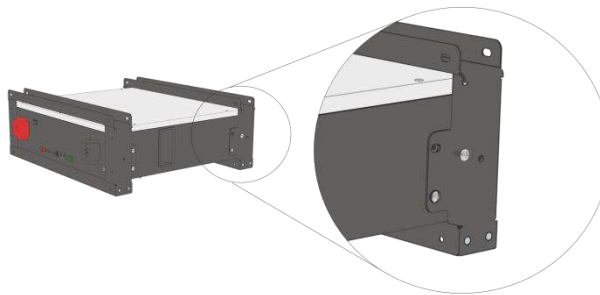

Figure 3-4
2. Place the DL5.0C and brackets as shown in the figure3-3, and insert the DL5.0C into the brackets. Each bracket is connected to the module by four screws, two screws on one side. As shown in Figure3-4.